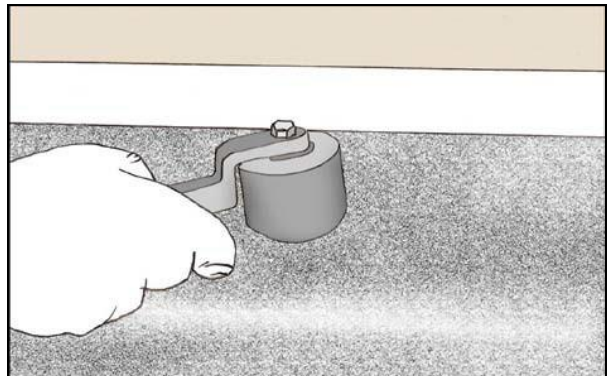

Fig 18.
7. Hand roll all coved areas to ensure a good bond. (See Fig 18.)